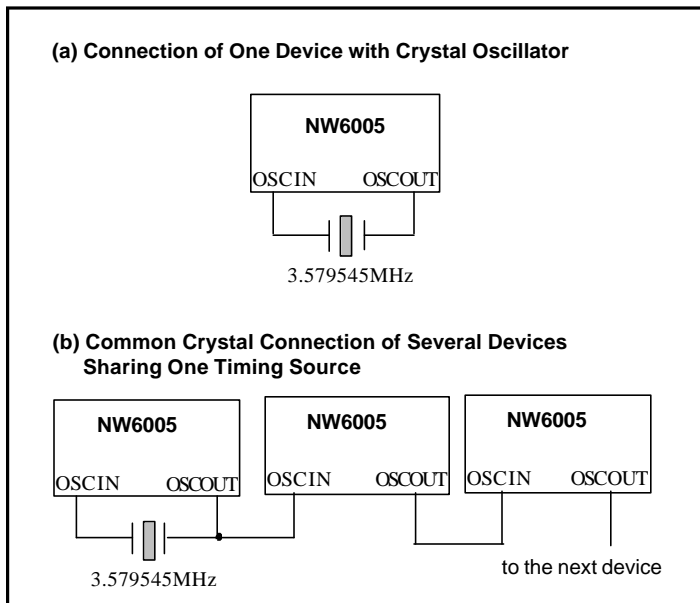

Figure 8. Application of Clock Driven Circuit
A 3.579545 MHz crystal oscillator or other external clock source is required for NW6005. The crystal can be directly connected between OSCIN and OSCOUT pins without any external component. If an external clock source is used, OSCIN pin should be driven by the clock source and OSCOUT pin is left floating or is used to drive other devices. Fig. 8 shows some applications.
- 2) By choosing $t_{GA}=15 \text{ ms}$, t_{ABS} will be 15-25 ms (refer to Fig. 8). Current wetting pulse and AC/DC load should be applied right after the STD rising edge.